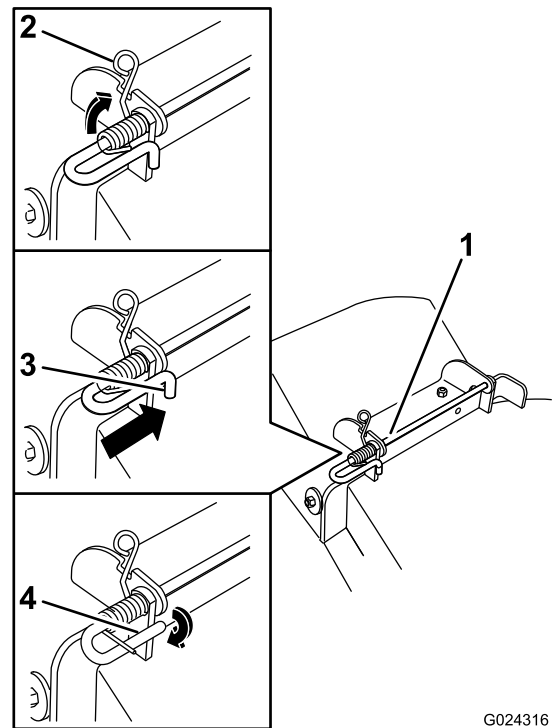

Figure 78
- Lift the loop end of the spring and place it into the notch on the deflector bracket (Figure 78).
- Secure the rod and spring assembly by twisting it so the short end of the rod can be placed behind the front bracket welded to the deck (Figure 78).